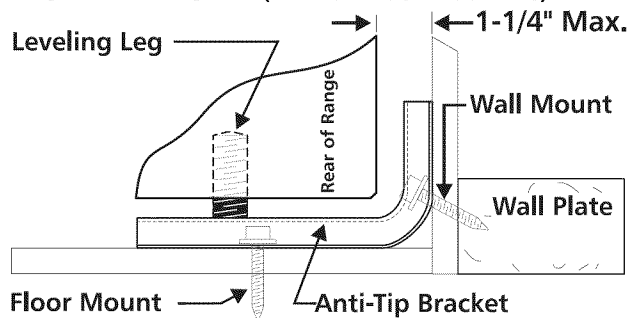
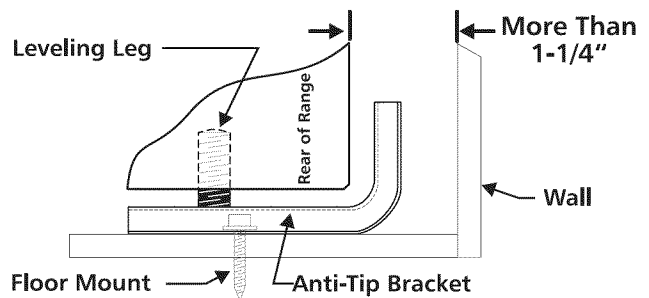

Fig. 4
Fig. 5
- a. **Locate the bracket using the template** - (Bracket may be positioned on either the left or right side of the range. Refer to Figs. 4, 5, & 7 to position the bracket if template is not available).
For wall mount (Fig. 4), locate the bracket by placing the back edge of the template against rear wall and the side edge of template on the mark made referencing the side of the range. Place bracket on top of template and mark location of the screw holes in wall. If rear of range is further than 1-1/4" from wall when installed, attach bracket to the floor (See Fig. 5).